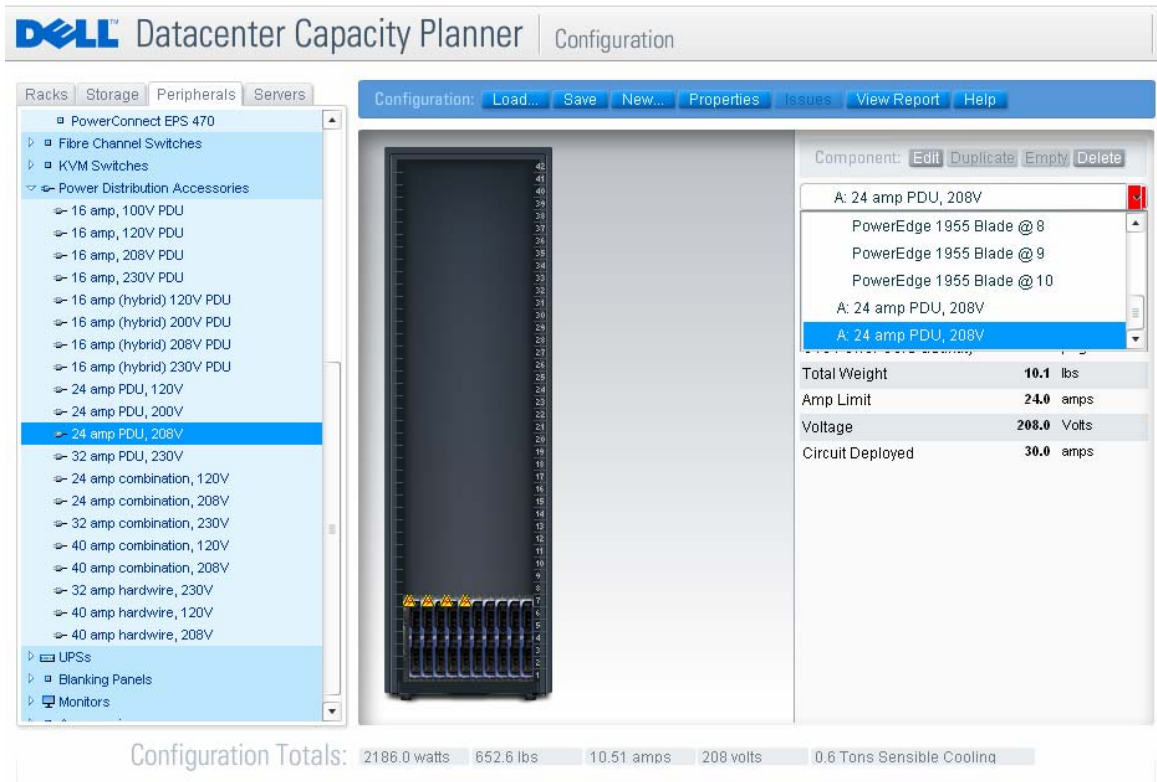

Figure 3 – Red Highlighted Drop-Down Menu
- o Clicking on the drop down menu highlighted in red (shown in Figure 3) enables one of the PDUs to be chosen as the live item for editing.